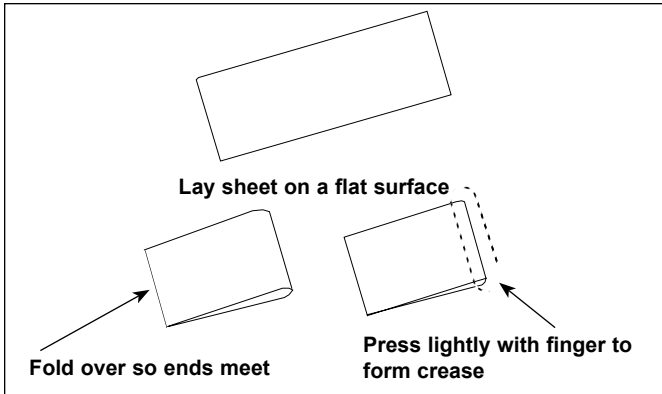

Figure 3. Folding Release Sheet
4. Remove the release sheet from the plastic bag and lay it on a clean, flat surface. Fold the sheet *exactly* in half (Figure 3).
5. Crease the sheet at the fold using only your finger (Figure 3).